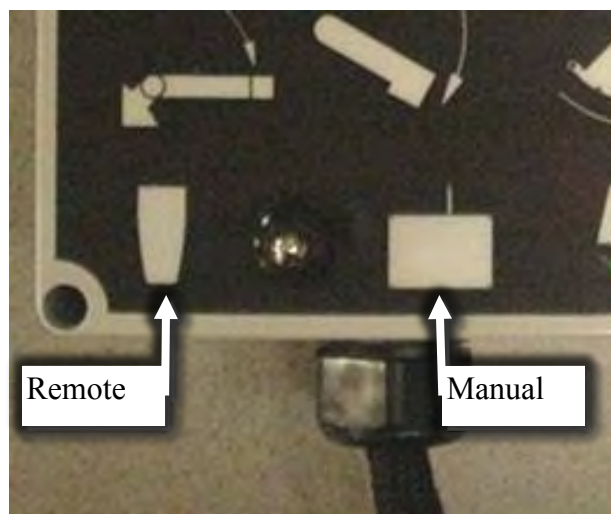
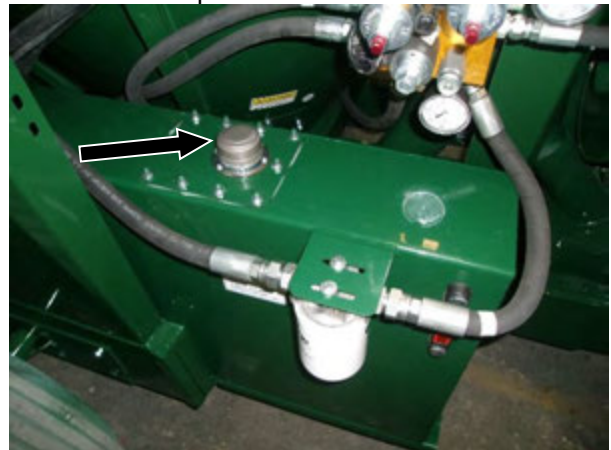

Figure 86 – Mode Switch Operation Settings for Complete Control Box with Internal Receiver.
Figure 99 – Hydraulic Reservoir Cap (see Arrow)
7165 Grinder Mixer units equipped with the Complete Control Box (see Figure 99) need to flip the **Mode Switch** at the lower left hand corner of the box (see Figure 86) to change control mode settings. Flip the switch to the **Left** for **Remote** control and to the **Right** to run the hydraulics **Manually** from the box.
When adding hydraulic oil, back blow through the filler cap with low pressure air. If the filler screen is dirty, remove the ten (10) – 5/16" whiz nuts on the access cover and flush screen with solvent and allow too dry before installing. Prior to replacing the access cover, remove the old gasket material from the cover and tank, then replace gasket material using silicone blue (see Figure 99).